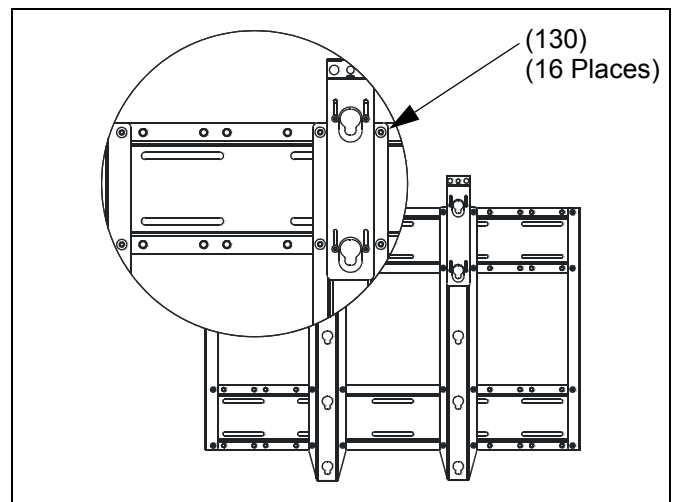

Figure 12: Installation on Inside Mounting Holes
2. Using key (150), loosely install brackets (20) to plates (10) with screws (130) according to dimension noted in previous step. Ensure that brackets (20) are installed so that the latches (40) are towards the top of the mount.
- 14" horizontal dimension: Install brackets (20) to inside set of mounting holes, closest to center of mount (See Figure 12).